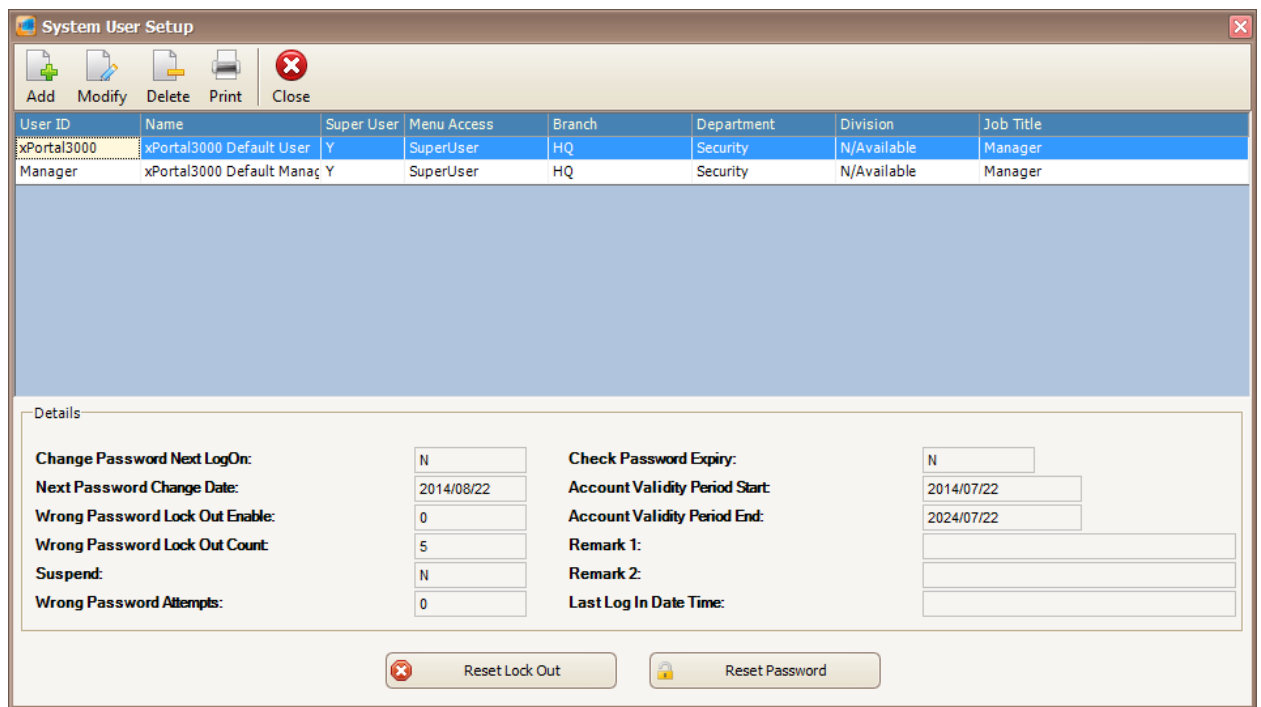

Figure 162 - System User Setup
2. The following window will be shown (Refer **Figure 162**).